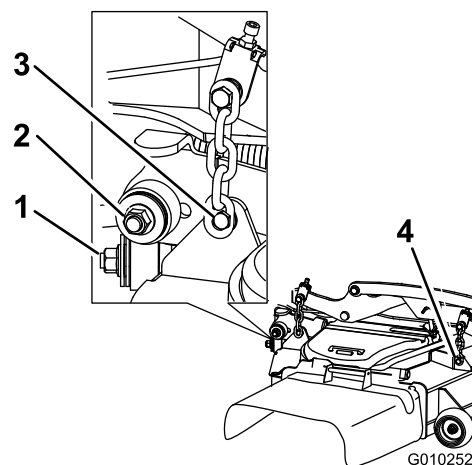

Figure 132
7. Remove and retain the hardware on both sides of the deck as shown in Figure 132.